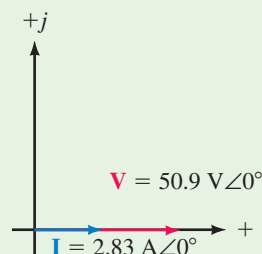

FIGURE 18-5
- Figure 18-5 shows the voltage and current phasors.